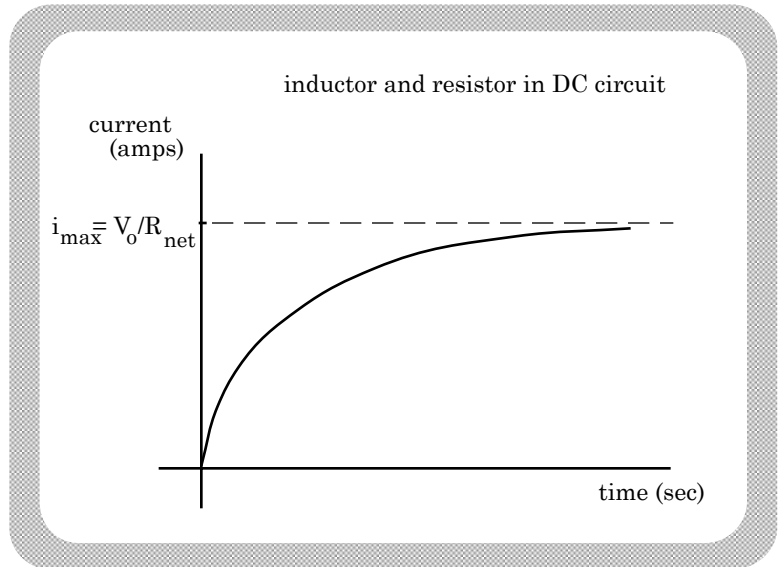

FIGURE 17.24
iv.) Put another way, the sudden increase in current elicits a back-EMF that attempts to diminish the current increase through the coil. This opposition is not so large that it completely stops current build-up, but it does slow it down. As such, the current in the circuit increases more slowly than would have been expected, and the *current versus time* graph ends up looking like Figure 17.24.
4.) Consider an electrical circuit in which there is an inductor whose inductance is L , a resistor whose resistance is R , an ideal DC power supply, and a switch (for now, we will assume that any resistance wrapped up in the wires making up the coil is negligible). Figure 17.24 shows the graph of *current versus time* for this situation, assuming that the switch was closed at $t = 0$.